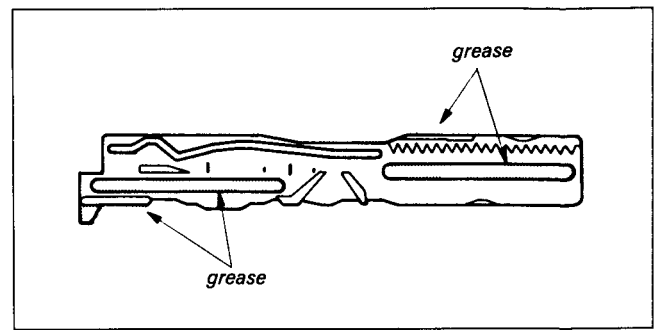

Fig. 7-41.
- 1) Apply grease. (See Fig. 7-41.)